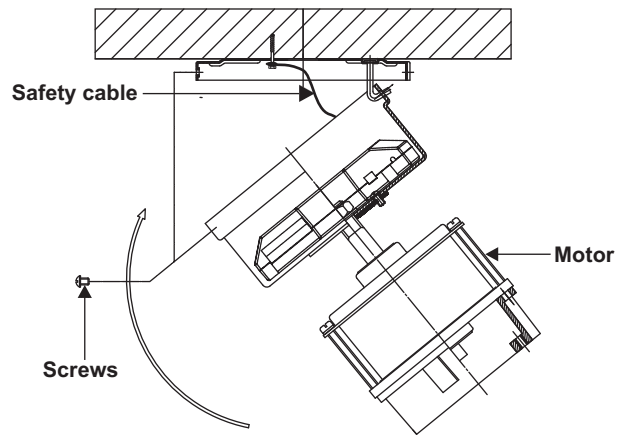

Figure 4
Step 1. Move fan motor into position over the four mounting holes and secure with the four screws provided. (Fig. 4)
Step 2. An additional safety support is provided to prevent the fan from falling. Secure the safety cable to the ceiling joist with screw and washer. (Fig. 4)